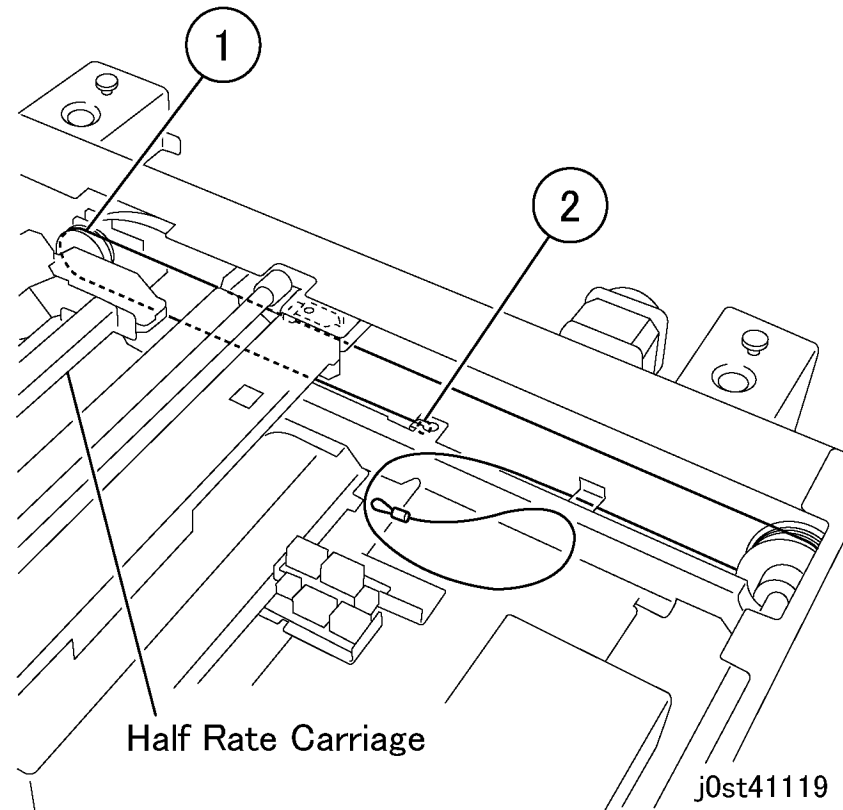

Figure 9 Installing the Carriage Cable
2. Install the ball end of the Carriage Cable (Figure 9).